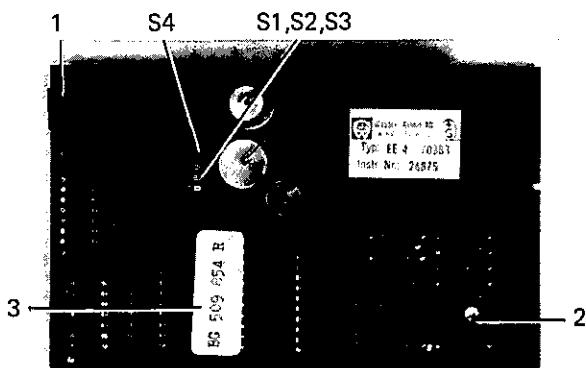

Fig. 6 Sweep printed circuit E 3
9. Sweep printed circuit E 3 (see Fig. 6)
(see Fig. 6)